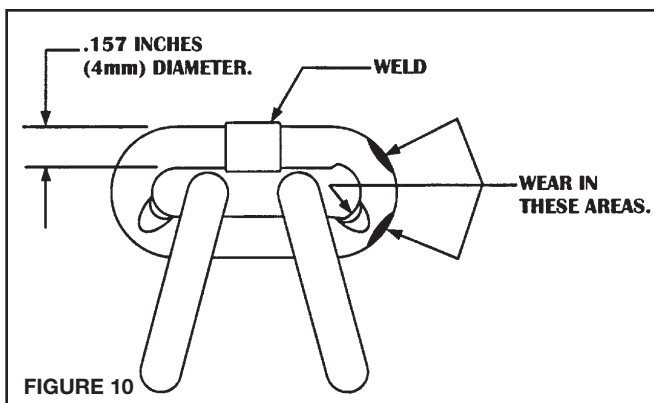

FIGURE 10
3. Slack the portion of the chain that normally passes over the lift-wheel (sprocket) or idler sprocket on multi-reeved hoist. Examine the chain links for wear (see figure 10). If the wire diameter anywhere on the link measures less than 90% of the nominal wire diameter, the chain must be replaced.